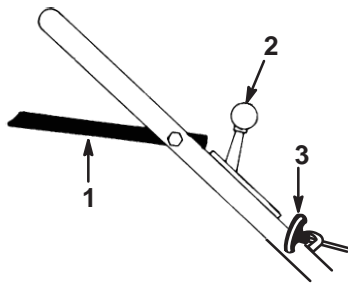

Figure 8
2. Move throttle to  (Choke) (Fig. 8).
4. Lift the blade control bail to the handle and hold. (Fig. 8).
5. Pull the starter handle lightly until resistance is felt, then pull it sharply (Fig. 8). Allow the rope return to the handle slowly. When engine starts, regulate throttle as desired. Allow the engine to warm up. During warm up, the equipment can be operated.